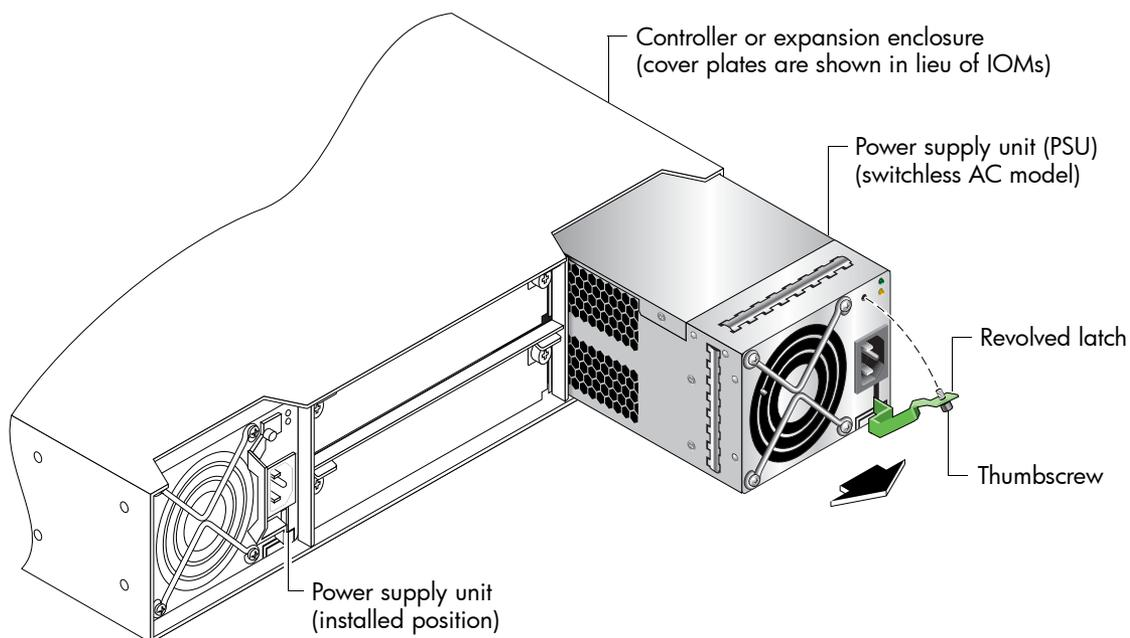
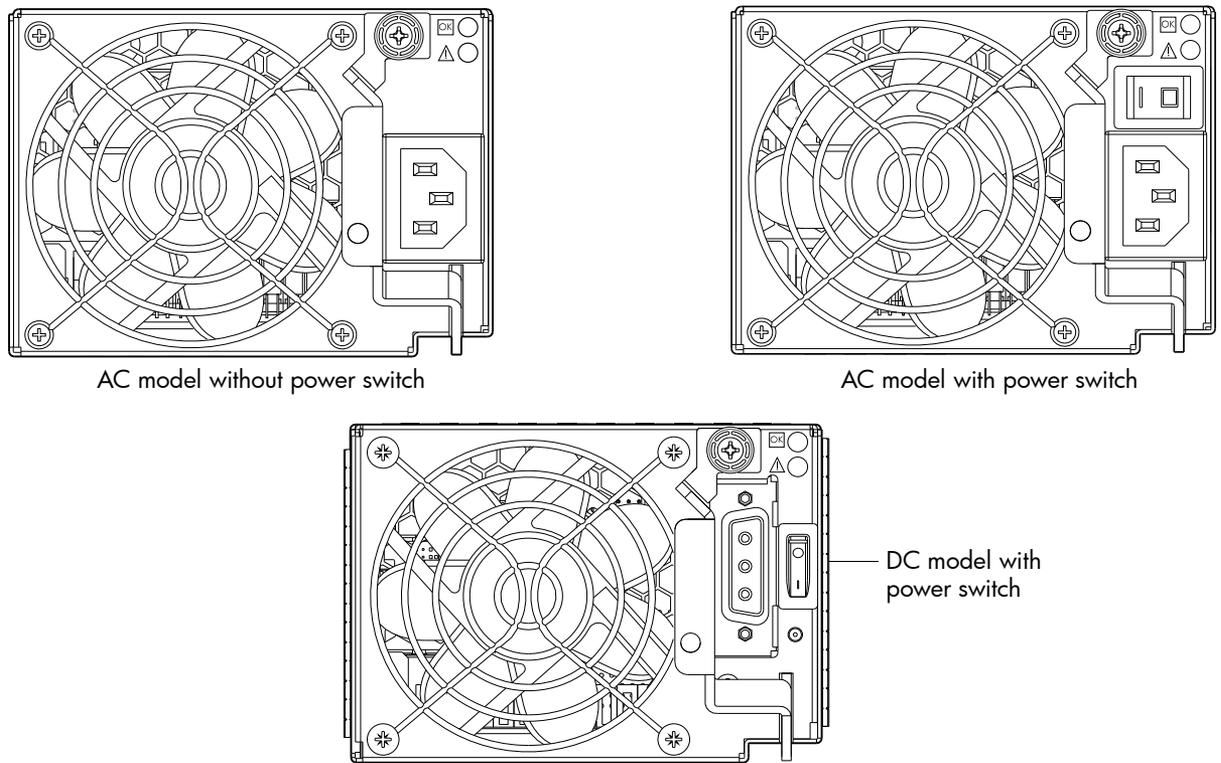

Figure 21 Removing a power supply unit
Figure 22 Orienting a power supply unit
See Figure 21 below.
1. Orient the PSU with the AC or DC power cable connector toward the right as shown in Figure 21 on page 38 and Figure 22, respectively.
LEDs for a PSU are located in the top right corner of the module face, as shown in Figure 22 on page 39.